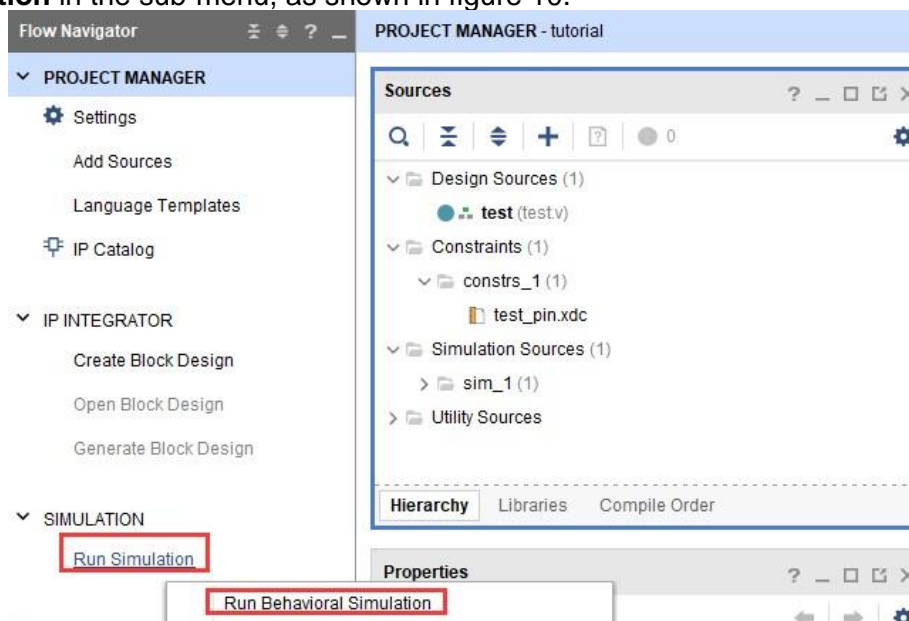

Figure 10.
2. Click the **Run Simulation** command in the Flow Navigator, then click the **Run Behavioral Simulation** in the sub-menu, as shown in figure 10.